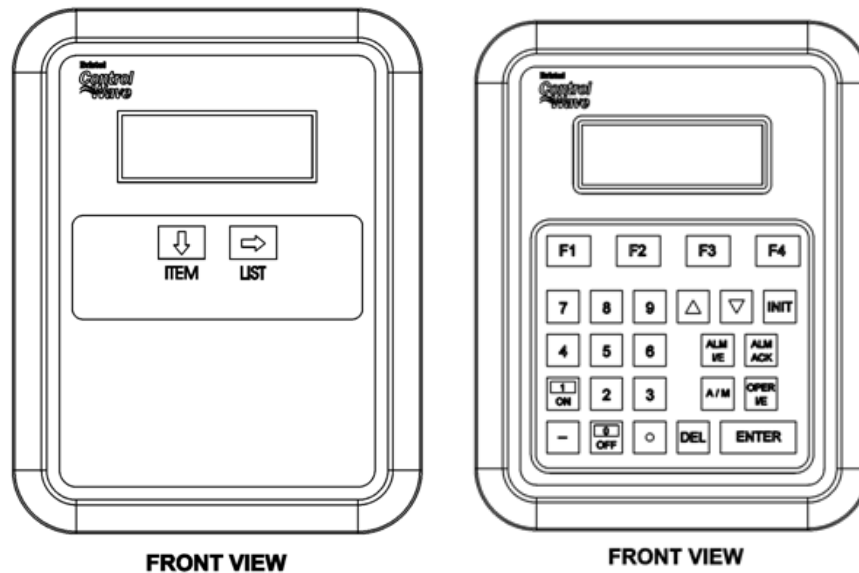

Figure 2-30. Optional 2-Button and 25-Button Keypads
- A 2-button keypad (shown in the left of *Figure 2-30*)
- A 25-button keypad (shown in the right *Figure 2-30*)